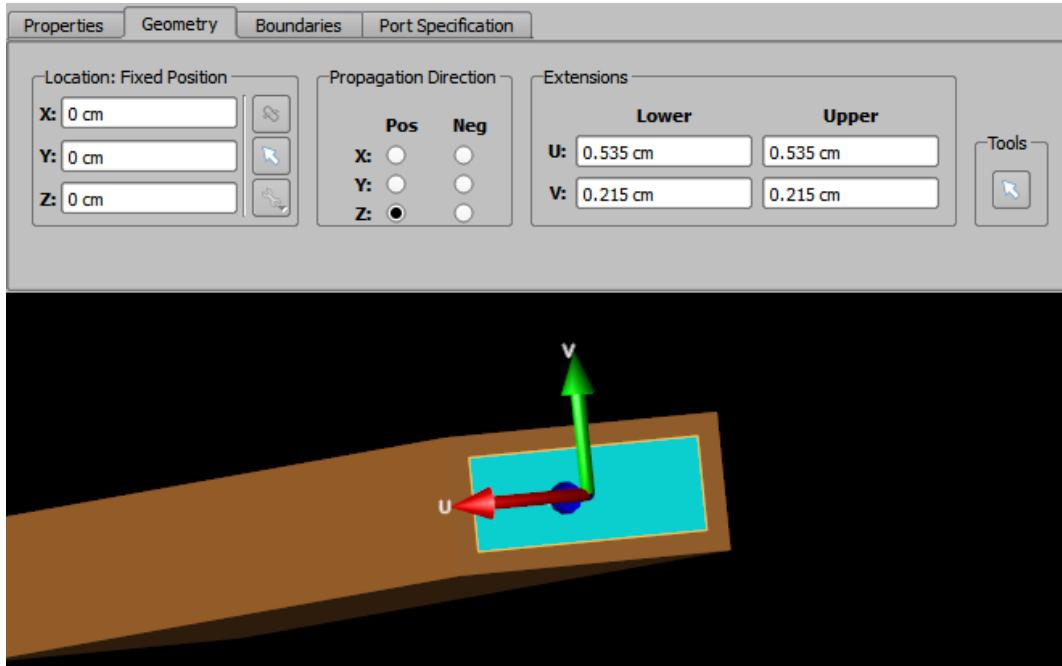

Figure 5.19: Waveguide Interface Geometry Tab
- Click on the GEOMETRY tab. We will leave the center of the waveguide interface at (0,0,0) which is at the end of the waveguide. The values in the EXTENSIONS group determine the size of the waveguide interface. Set the values in the EXTENSIONS box as shown in Figure 5.19.